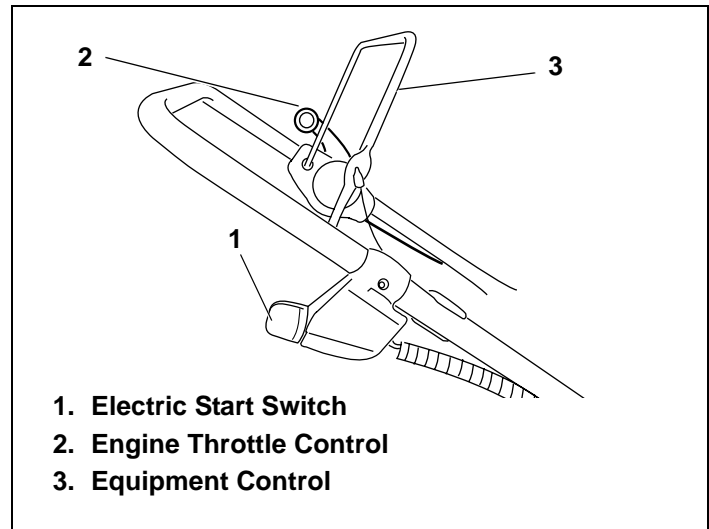

Figure 17. Typical Engine Controls
2. Move engine throttle control to "CHOKE" or "START" position, if present (see equipment manufacturer's instructions). See Figures 17 thru 19.
4. Operate equipment control to release engine brake or clutch, if present (see equipment manufacturer's instructions). See Figure 17.
- b. Move engine throttle control to "FAST" position. See Figures 17 thru 19.
- a. Move engine throttle control back to "CHOKE" position. See Figures 17 thru 19.
- b. Next, move engine throttle control to "FAST" position. See Figures 17 thru 19.